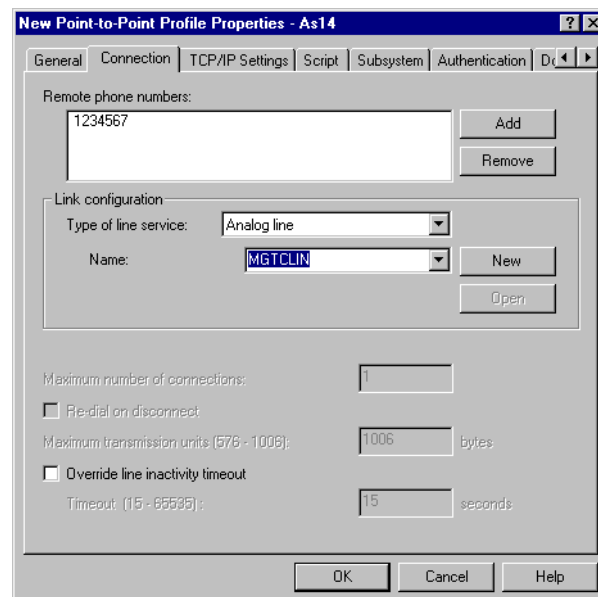

Figure 197. Creating a new PPP line for the connection
- a. In the **Connection** tab as shown in Figure 197, add up to three remote phone numbers. If additional numbers are required to reach an outside phone line, ensure that you include them in the remote phone number. Also, specify analog line for **type of line service** and the line name for **Name**. Click **New**. Select the hardware adapter you are using.
In Figure 197, you can see that the PPP connection will drop the PPP connection after being idle for 60 seconds.